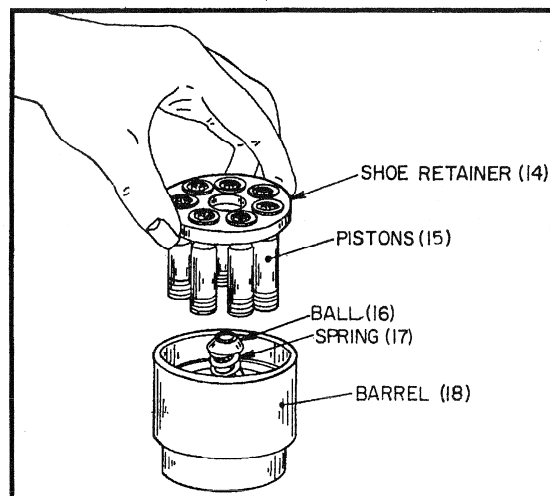

Figure 7. Rotating Group Disassembly (511783).
See Figure 7. Lift out shoe retainer (14) with piston/shoe assemblies (15) and remove fulcrum ball (16) and shoe retainer spring (17).
See Figure 7. Place the cylinder barrel (18), wear surface down, on a clean cloth. Place the shoe retainer spring (17) in the center of the barrel with the fulcrum ball (16) on top of it. Insert the pistons/shoe assemblies (15) into the shoe retainer (14). As a unit, fit the pistons into their bores in the cylinder barrel. **DO NOT FORCE**. If aligned properly, the pistons will fit smoothly.
**WARNING: Assistance from others and proper lifting technique is strongly recommended to prevent personal injury while assembling larger sized pump rotating groups into the pump.** The rotating group can now be carefully installed over the tail of the driveshaft (1) and into the pump housing (5). When installing the rotating group, support the weight of the cylinder barrel (18), as cylinder spline is passed over the tailshaft, to avoid scratching or damage. Push cylinder forward until the cylinder spline reaches the driveshaft spline and rotate the cylinder slightly to engage shaft splines. Continue to slide cylinder forward until it encounters the hydrodynamic cylinder bearing (12). Lifting the tailshaft slightly helps cylinder barrel (18) and cylinder bearing (12) engagement. Continue pushing cylinder forward until the piston shoes contact the swashblock. At this point, the back of the cylinder should be located slightly outside the back of the pump housing.